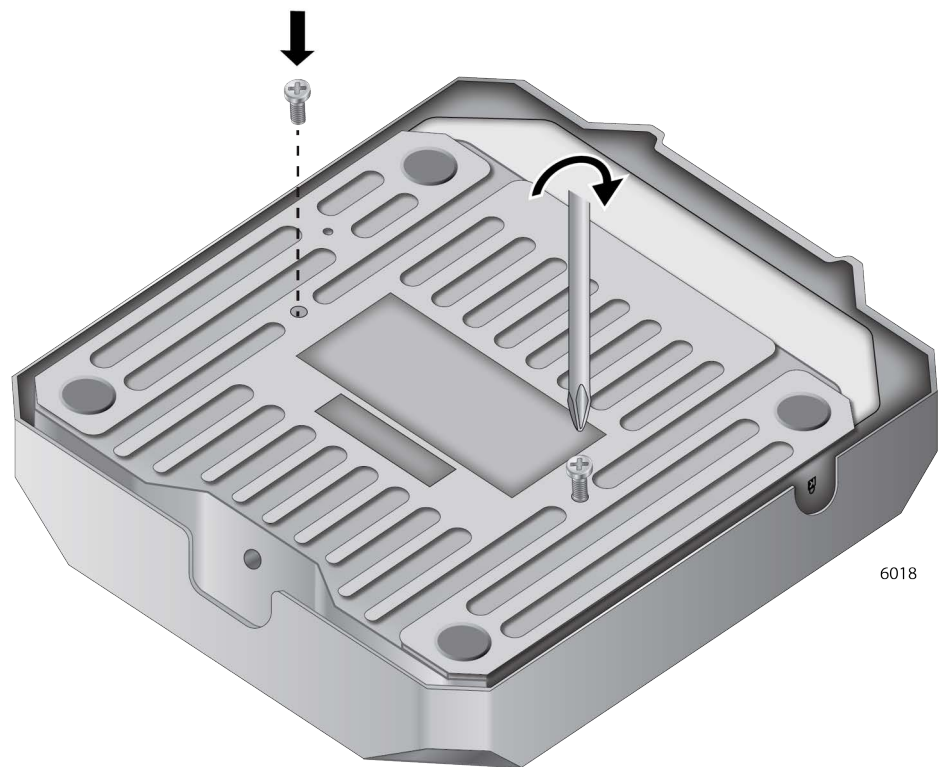

Figure 14. Attaching the Bracket Screws to the Access Point
2. Install the two screws (provided) fully into the bottom panel of the access point. See Figure 14.